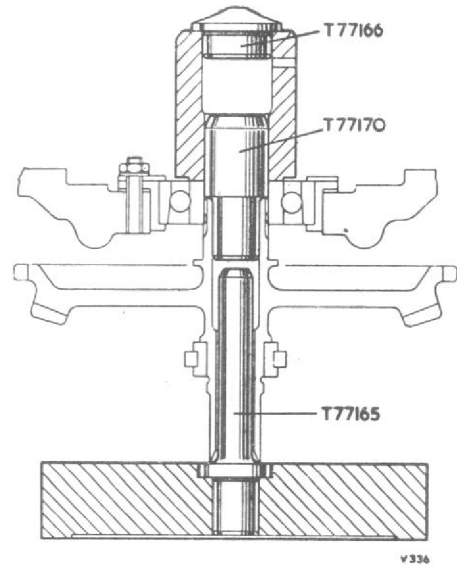

Fig. 9. Pressing the valve box mounting plate on to the fuel pump driving gear
- (2) Position guide adapter T77169 into the bore of the gear.
- (3) Position the inner race of the roller bearing, serial number facing uppermost, over the guide adapter.
- (4) Using adapter T77164, press the bearing on to the gear.
- (5) Secure the race with a new circlip (Part No. AGS2031-12).
- (6) Reverse the gear on the press block so that the bevel gear faces down.
- (7) Position guide adapter T77170 into the bore of the gear.
- (8) Position the valve box assembly mounting plate over the guide adapter.
- (9) Using adapter T77166 press the mounting plate on to the gear (*fig. 9*).
- (10) Secure the race with a new cup locking washer (Part No. N2880) and the ring nut.
- (11) Using spanner T77175, tighten but do not lock the nut.